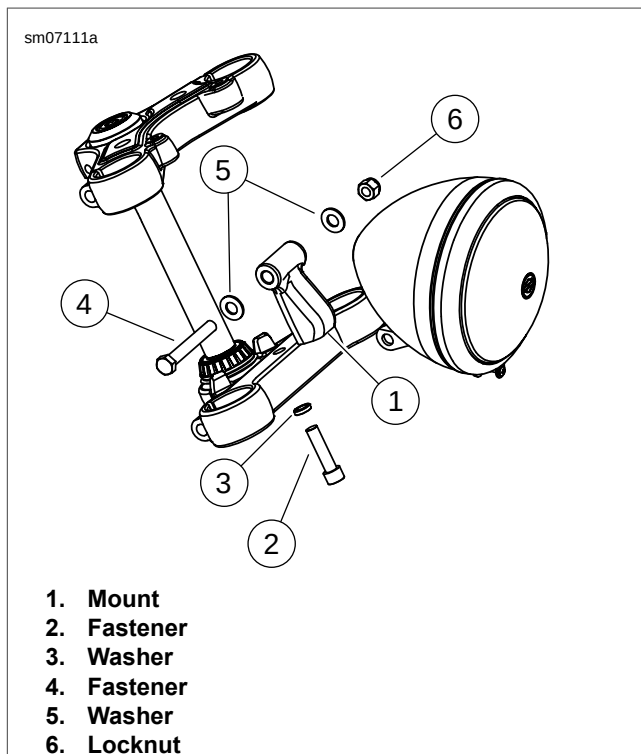

Figure 6-39. Headlamp Mount: XL 1200V/C/CP/CA/CB
1. See Figure 6-39. Remove main fuse.
2. Install the fastener (2), washer (3) and mounting post (1). Tighten to 30-35 ft-lbs (41-47 Nm).
3. Assemble the washer stack (5) and fastener (4). Install the headlamp assembly. Hand tighten.
6. Tighten the headlamp locknut (6) to 30-35 ft-lbs (41-47 Nm).